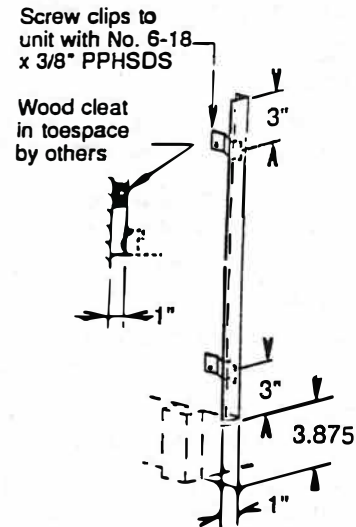

Figure 1
2. Install leg and leg assemblies per Figure 1 and 2, using nuts, bolts and lock washers from hardware kit.
1. Base Unit Filler (1" wide) . Figure 1